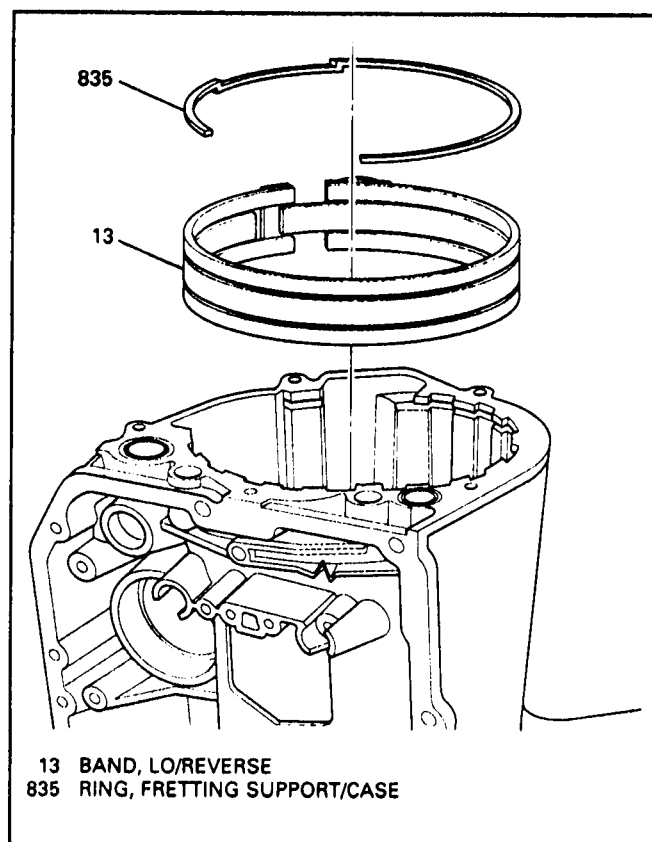

Figure 61
4. Remove the fretting ring (835), as shown in Figure 61. Note the position of the ring in case before removal.
5. Remove the Lo/Reverse band as shown in Figure 61.